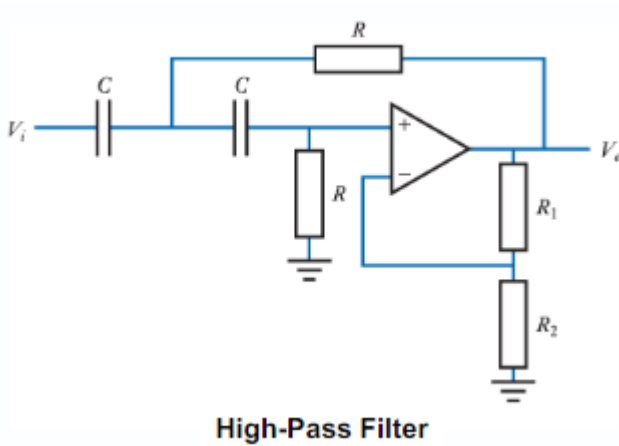

Figure 6. High-Pass Sallen-Key Filter Design [4].
As well the general circuit design for a Sallen-Key Butterworth High Pass filter can be seen below in Figure 6.
The team decided to let resistors labeled R and capacitors labeled C in Figure 6 equal each other. Next the team decided to base the resistors (R) values off the available metal film capacitors. The relationship between these elements can be seen below in Figure 7.